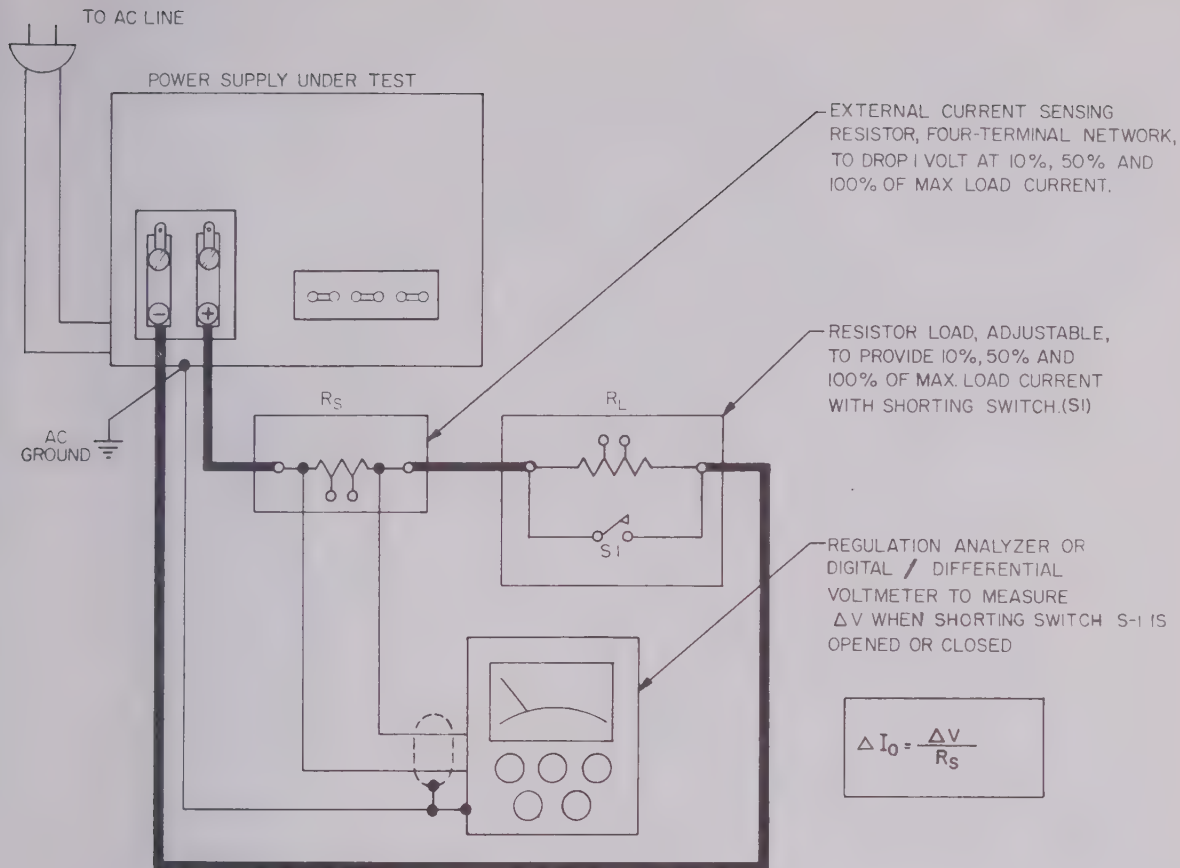

FIG. 5-5 MEASURING LOAD REGULATION (CURRENT MODE)
- b) Connect test equipment as shown in Fig. 5-5.